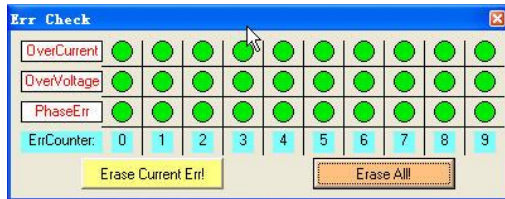

Figure 28: Error check window
- | **Error Check:** This window shows both the present status of each error event and their history. Current error event(s) can be reset by clicking **Erase Current Err!** button, and all error events can be reset by clicking **Erase All!** button. List of the last ten Drive faults. #0 being the most recent, #9 is the oldest. See Figure 28.